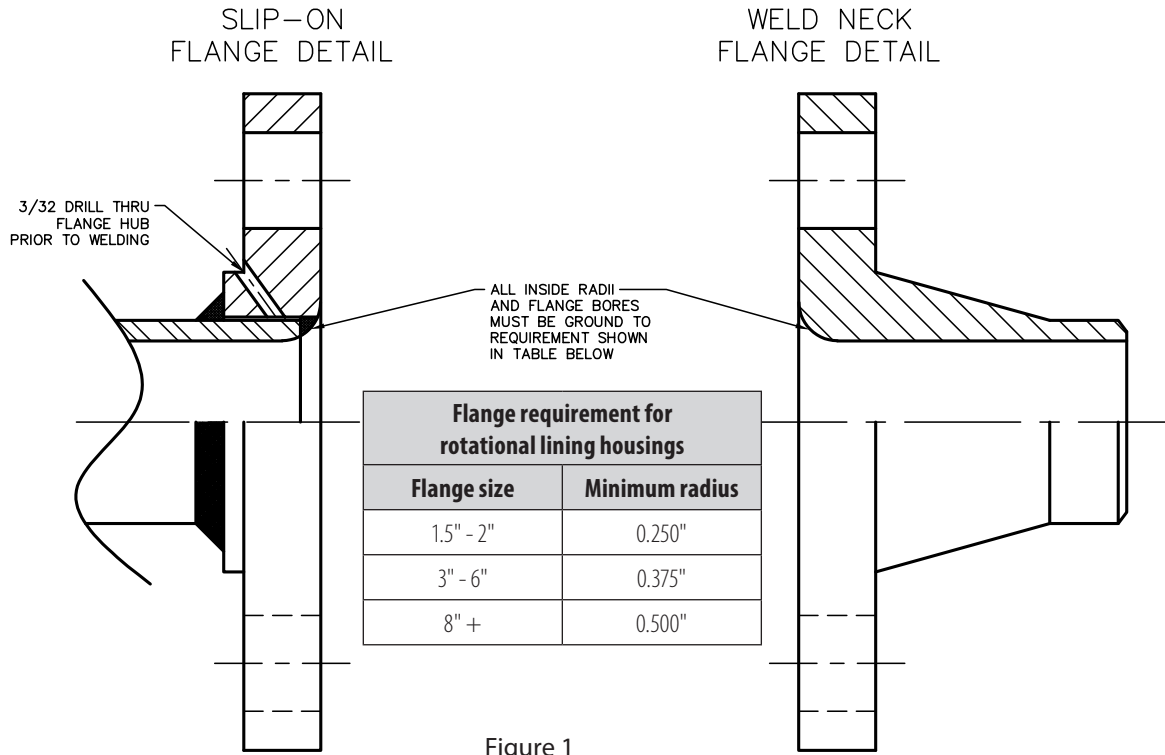

Figure 1
1. Flanges must be lap joint, slip-on, or weld neck, ASME Class 150 or Class 300. Other flange standards may be possible to line – consult factory. Weld Neck and Slip-on Flanges must be radiused at the bore per the table in figure 1 Lap joint metal lap to meet minimum diameter per figure 2.
2. All flange face radii must be ground/machined per radius as shown in tables in figure 1 and figure 2. All other interior sharp edges or corners must be ground/machined to a minimum radius of 0.250.
3. Pipe, fittings, and flanges must be welded per ANSI B31.3. For slip-on flanges, only, the fabricator must provide a 0.094" dia. vent hole for the space between the hub I.D. of the flange, and the pipe O.D. Detail for this vent hole is in figure 1.